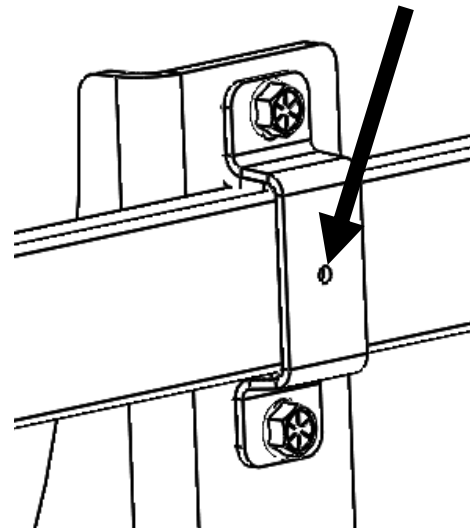

Figure 2.1 (Bracket hole for self-drilling screw)
2. Using a single sealing washer with each of the self-drilling screws, begin drilling the screws in place at the two locations highlighted in Figures 2.1 and 2.2 (eight in total).